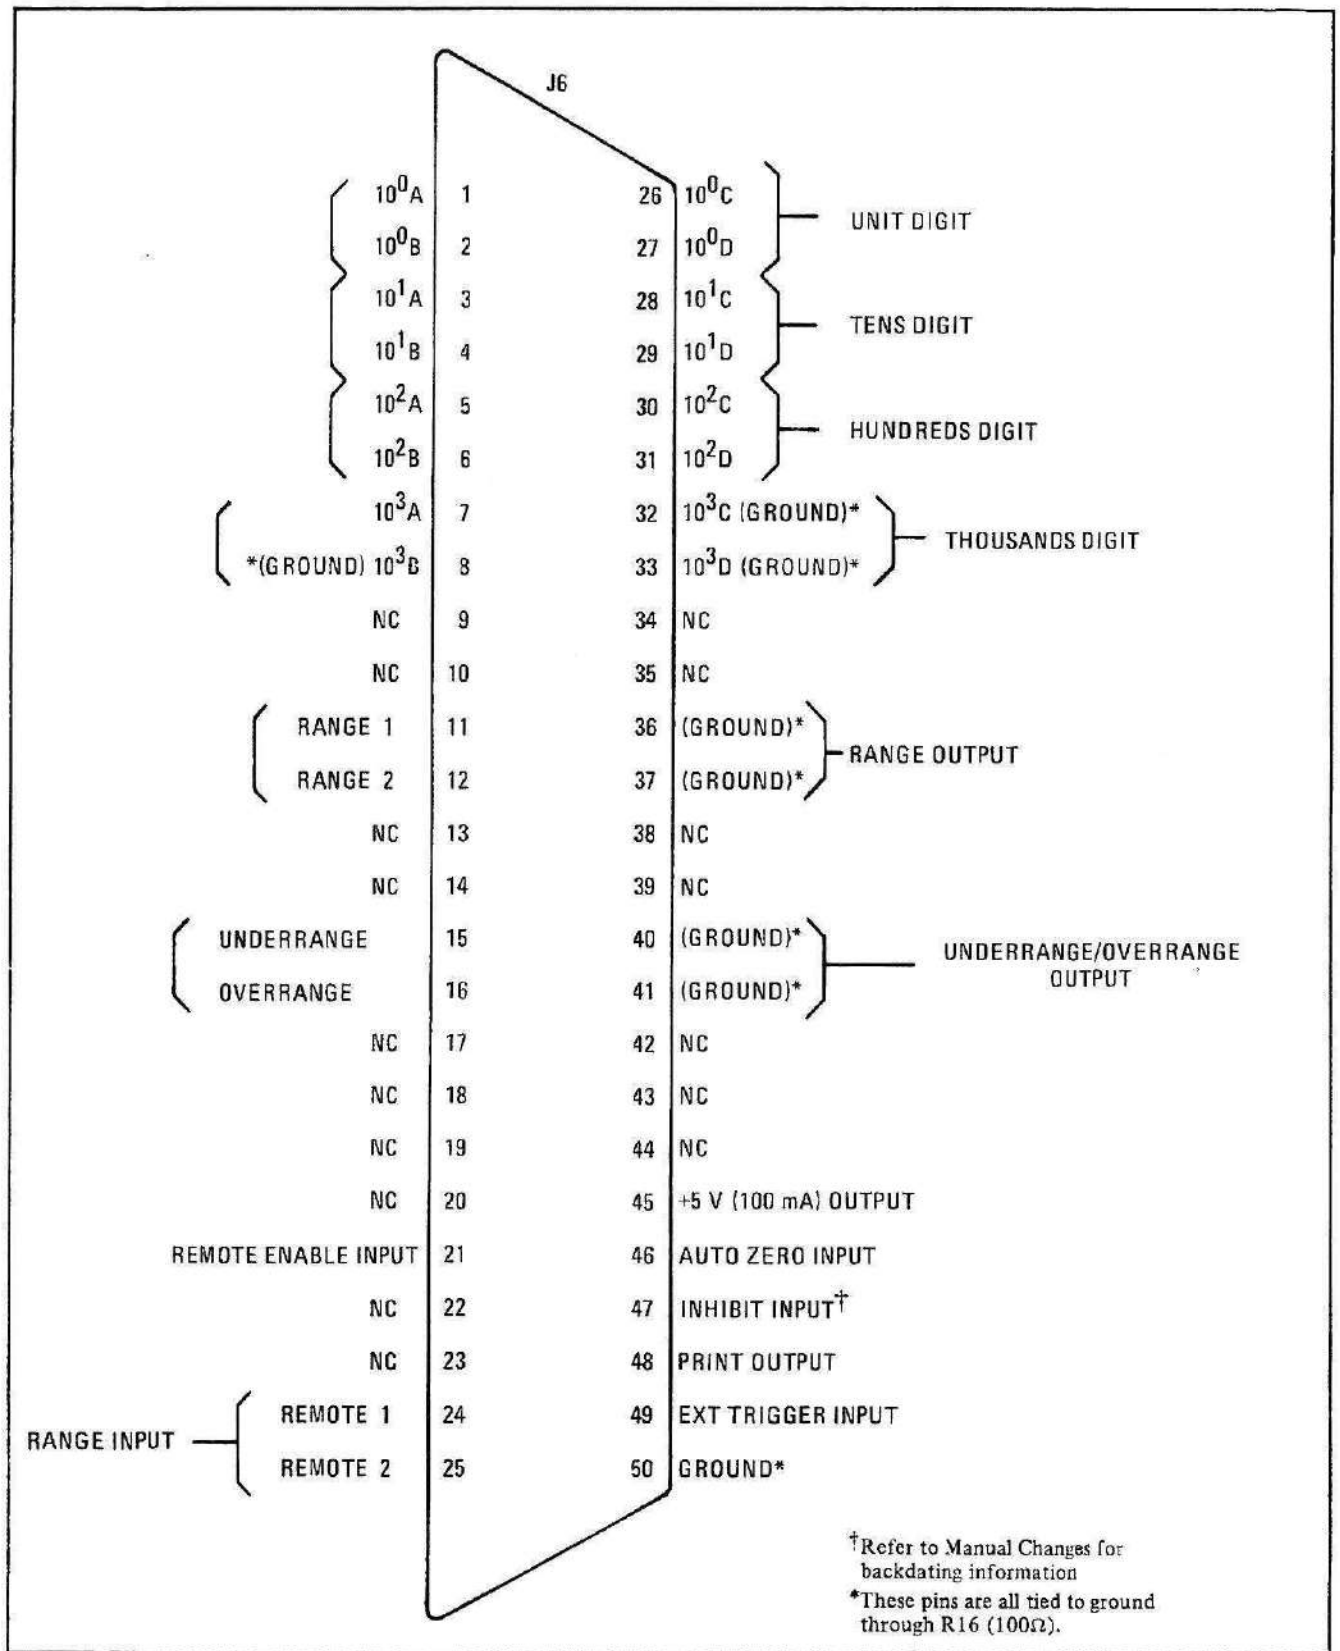

Figure 1. Data Input/Output Connector J6
19. Connector J6, on the rear panel, provides data input/output capability that is TTL compatible. The 432C uses positive true logic: logical "1" refers to +2.5 to +5V, and logical "0" refers to 0 to 0.44V. Figure 1 shows J6 and lists its pin functions. The HP 1251-0086 plug (Amphenol and Cinch Part No. 57-30500-375) mates with data jack J6 on the rear panel.